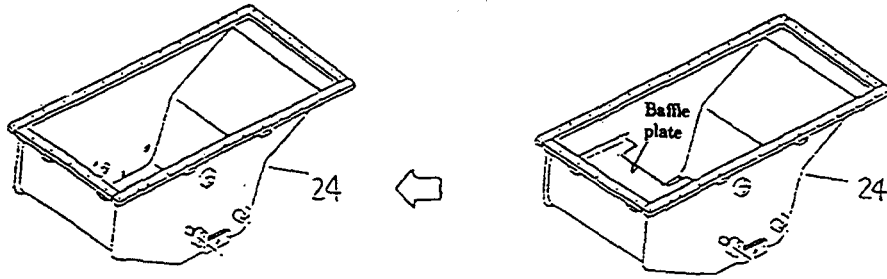

Fig. 34
③ Elimination of oil pan baffle plate on D475A-2 (Fig. 34)